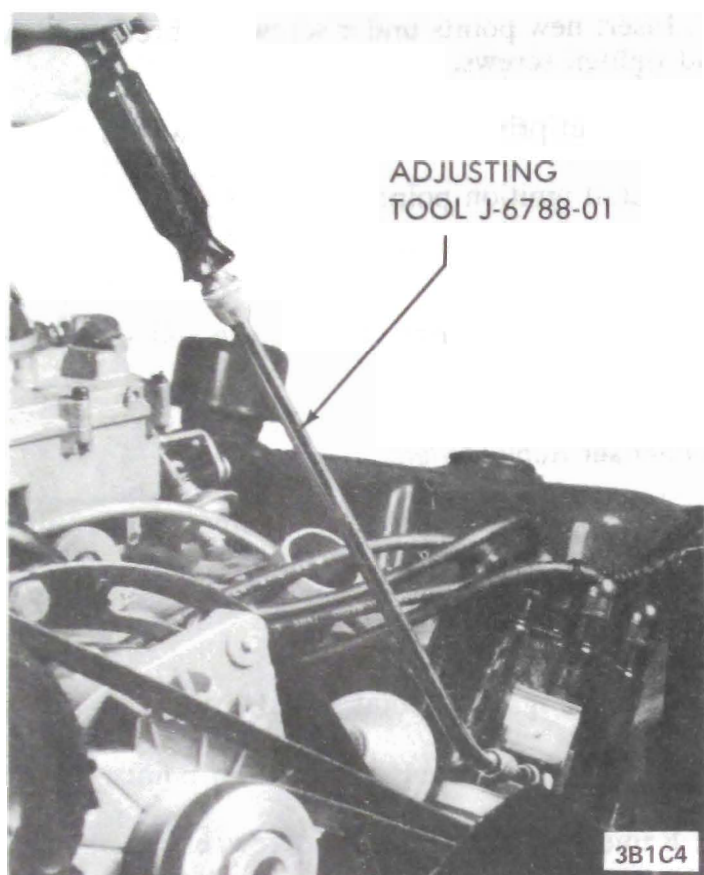

Figure 1C-4 Adjusting Dwell Angle
3. Lift distributor cap window, insert 1/8" allen wrench or equivalent in adjusting screw and set dwell angle at 30 degrees. See Figure 1C-4.